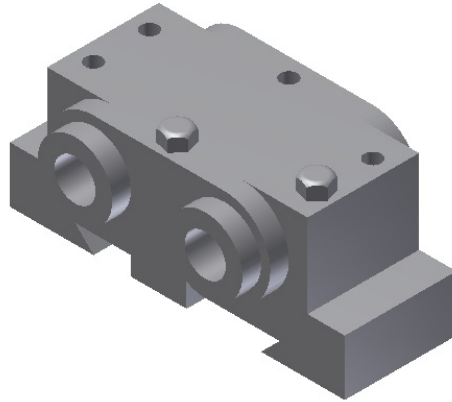

Figure 10-37 *Assembly after two instances of Bolts are assembled with the Base and the Cap*
3. Place two instances of the Bushing and then assemble them using the **Constrain** tool, refer to Figure 10-37.
4. Similarly, place two instances of the Bolt and then assemble them using the **Constrain** tool, as shown in Figure 10-37. You also need to make sure that you place the bolts in the parent holes in the cap part of the model. To check the parent or the primary holes of the cap, check the part file.